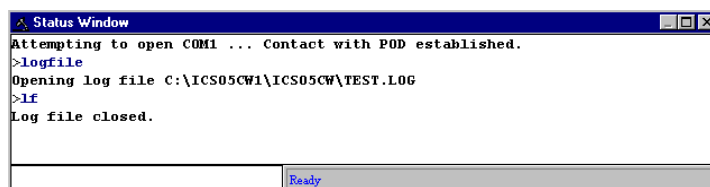

Figure 6-10. Results of Entering the LF Command in the Status Window
- Choose the Start Logfile option from the ICS05KJW File menu, or enter the LF command in the Status Window command line (Figure 6-10).